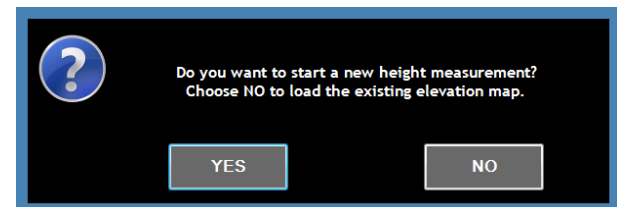

Figure 62 New height measurement.
- You will then be asked if you want to start registering new height measurements (Figure 62), select **YES** to create a new height map and **NO** to add measurement data to an existing height map.